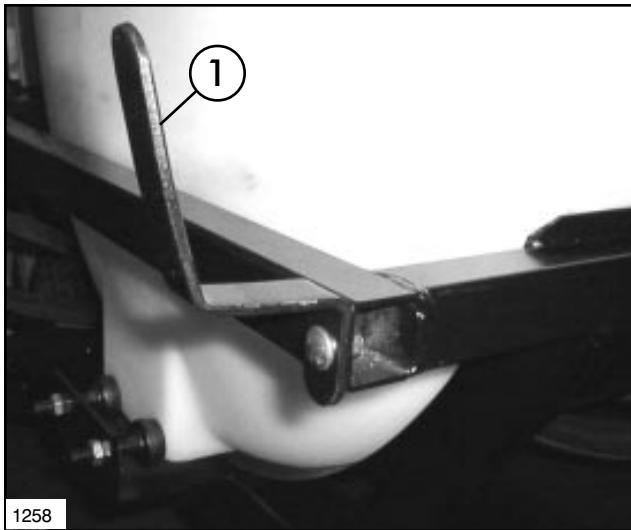

FIG. 6
- Apply thread sealer and install (1) 45° Elbow and 1-1/4" Hose Barb into the 1-1/4" Ball Valve.
- Apply thread sealer and install (1) 90° Hose Barb into the outlet port of the Suction Strainer.
- Secure Suction Strainer to Strainer Bracket using (1) hose clamp.
- Connect Suction Strainer to the 1" x 90° Hose Barb in top of Pump with 1" x 24" suction hose. Secure with (2) hose clamps.
- Attach (1) Hose Hook to the R.H. and L.H. rear corners of Saddle Assembly. See FIG. 6.